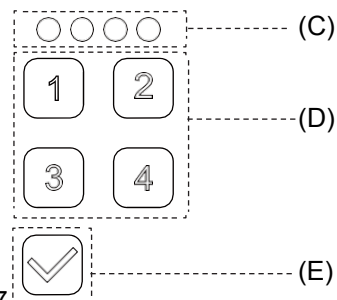

Figure 7
- To unlock, enter your password on the number pad (D). Light indicator (C) will light up each time the number is entered. Press (E) on the pad when password entering is finished. (Figure 7)